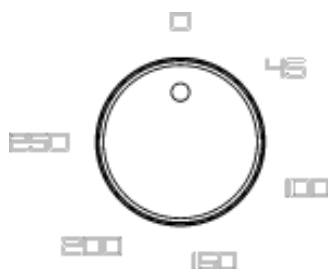

Fig. 1
The TEPPANYAKI is controlled by an energy regulator to multiple positions (see fig. 1). Its insertion is performed by rotating clockwise the
The teppanyaki surface: should be cleaned when it is at a temperature in the range of approximately 50 - 60 °C; at this temperature, it is easier to remove food residue. If the plate surface is cold, move the thermostat knob (7) to 50 - 60 °C, if it is still hot, wait until it has cooled down: in such a case, when you have decided to carry out the cleaning procedure, in order to determine the plate surface temperature, rotate the knob thermostat (7 fig. 1) until the indicator light illuminates (9) and read the indicated temperature (figure 1), then return the knob (7) to the "0 - off" position.